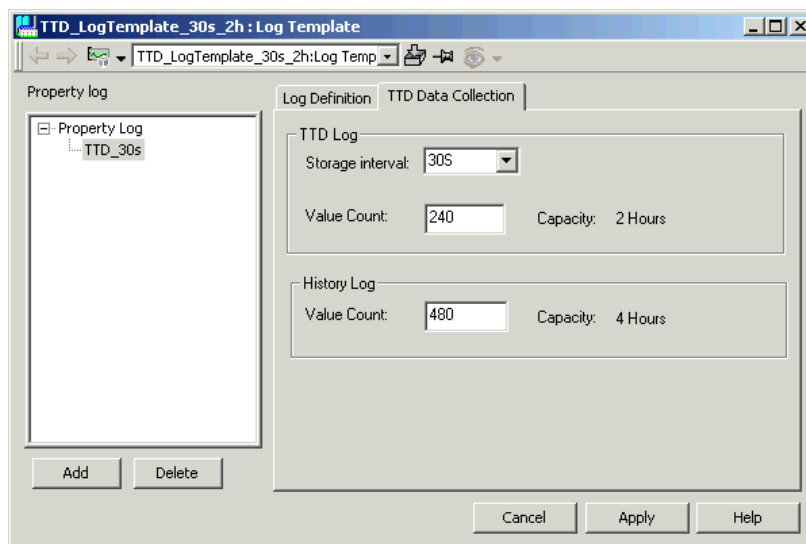

Figure 48. Log Configuration - TTD Data collection
7. Select the **TTD Data Collection** tab and enter the “TTD log storage interval” 30 seconds and a storage “TTD log value count” of 240 values (2 hours capacity), see Figure 48.